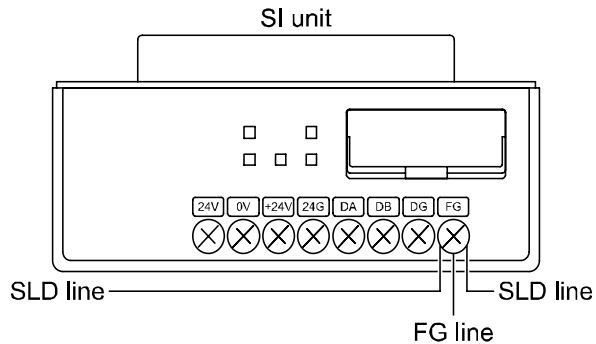

Fig. 4: Wiring to the FG terminal on the SI unit
- (4) The CC-Link-dedicated cable's shield wire (SLD) should be connected to the "FG" terminal of the SI unit. For the EX140-SMJ1, the "SLD terminal" and "FG terminal" are common. Therefore, connect 3 wires to the "FG Terminal" as shown in Fig. 4.